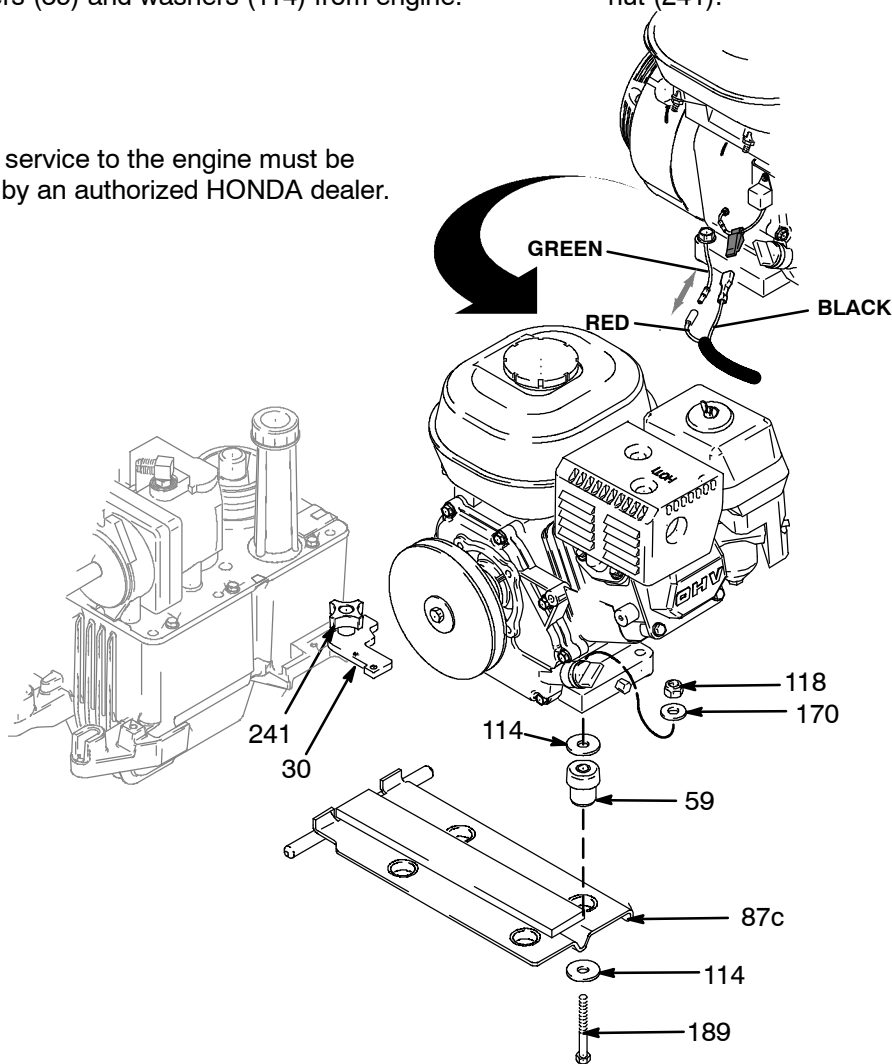

Fig. 4
3. Loosen hand nut (241). Swing bracket (30) out.
4. Fig. 4. Disconnect red and black leads from engine (185).
6. Remove four screws (189), washers (114), washers (170) and nuts (118) and remove rocker plate, dampeners (59) and washers (114) from engine.